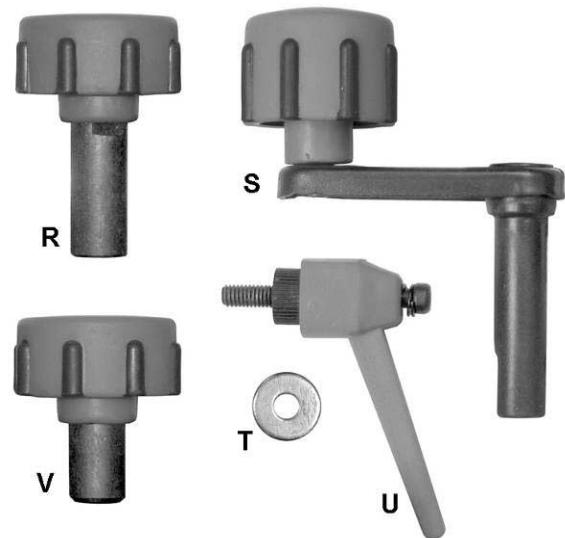

Figure 3 – Knobs and Handles
**Note:** The shaft length of each lock knob (refer to Figure 3) are different. Be sure to install each in the correct location.